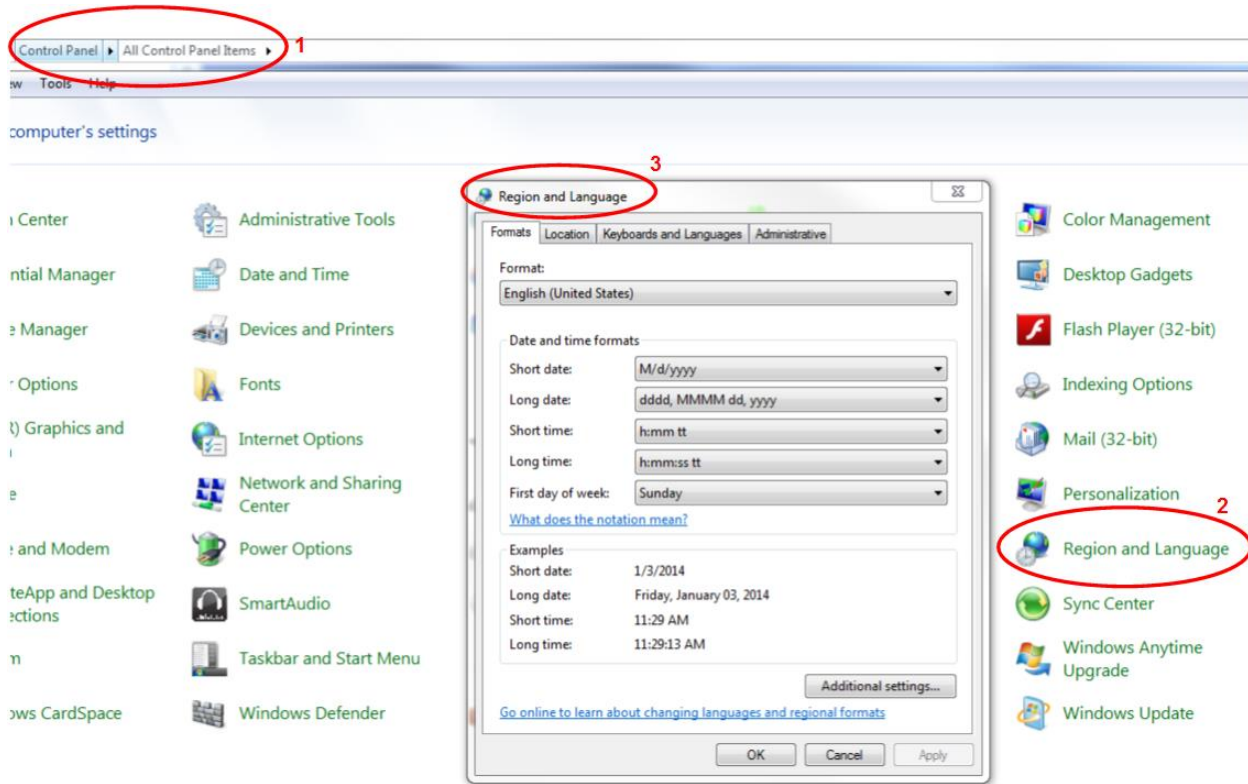

Figure 310: Region and Language Selection
2. When the Computer Settings window displays, click on the Region and Language selection (labeled 2 in Figure 310). This causes the Region and Language window to display (labeled 3 in Figure 310).